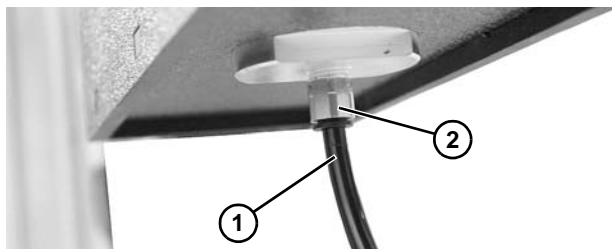

Figure 121
2. Remove tubing (**Figure 121, item 1**) from the lower port (**Figure 121, item 2**) on the lift cylinder.